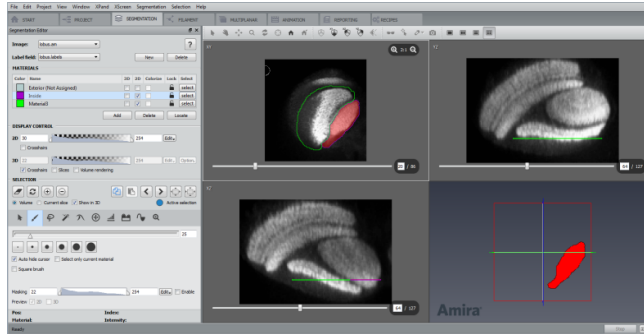

Figure 3.34: Selecting Two Structures by Using One Slice
2. Mark the structure in the middle using the brush, select the new material in the *Materials* list, and assign the pixels to that structure (see Figure 3.34).